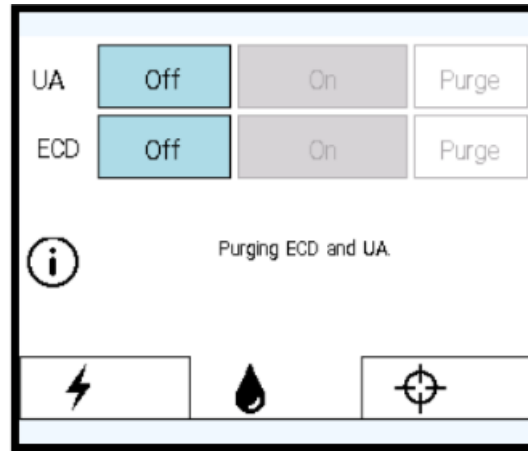
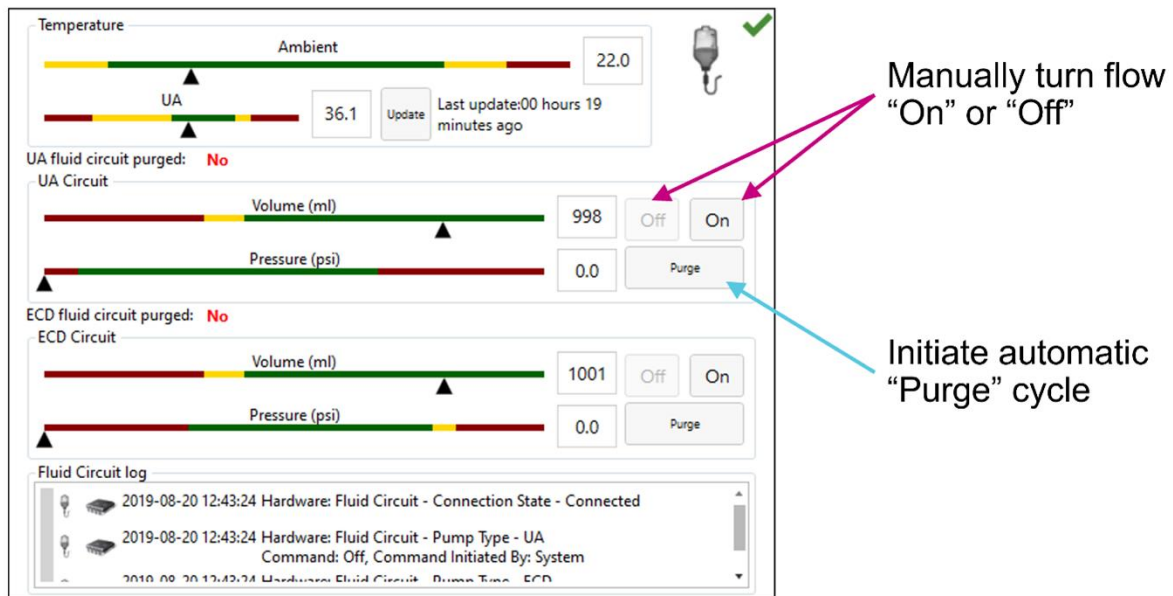

Figure 8: PSIB Display - Fluid Circuit tab
Figure 9: Fluid Circuit information box in TDC Setup workspace
5. On the PSIB display, choose the **Fluid Circuit** tab (*Figure 8*) and **Purge** the UA and ECD fluid circuits. You can also do this from the TDC by pressing **PURGE** beside the fluid circuit (FC) quadrant (*Figure 9*).
- a. If the purging cycle ends before completing the steps in this process, return to the PSIB display (or TDC window) and manually turn the flow on by clicking **On**. The fluid pumps will remain on until you click **Off** (Figure 9).